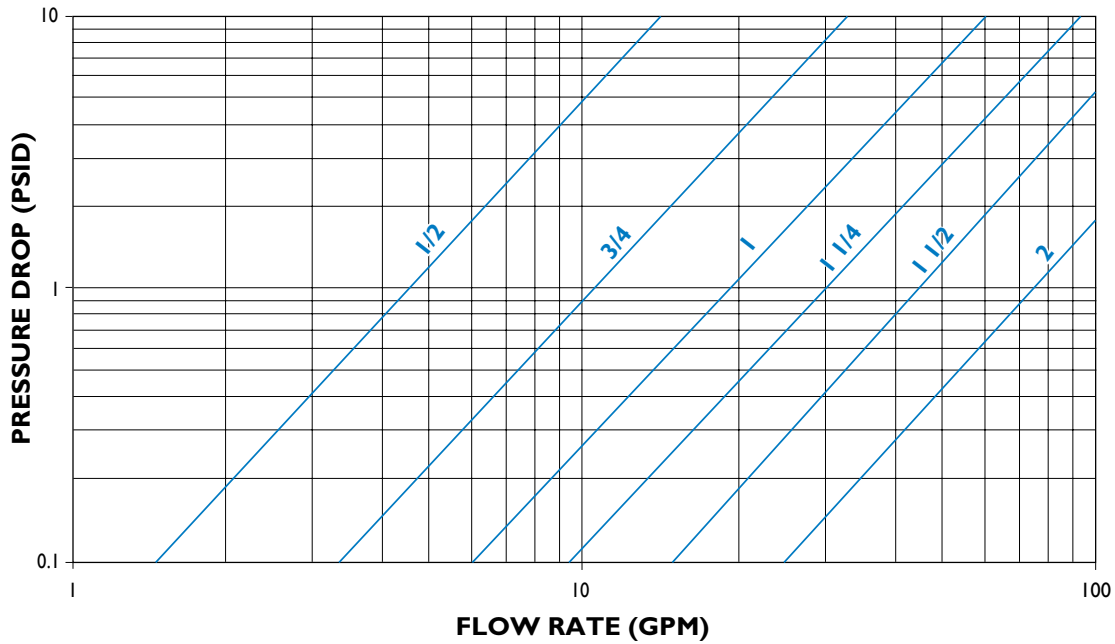

FIGURE 1
*Multiply values obtained from figure 1 thru 2 by the appropriate values shown below
- Using figure 1 the pressure drop is determined to be 0.9 psig with IFC's standard screen.
- 1) Using figures 1 or 2 determine the pressure drop (P1) through the strainer with water flow and standard screens.
- 4) Using chart #2 multiply P3 by the appropriate Component Factor (CF) to get P4.
- 6) Multiply P4 by the appropriate Body Loss Factor (BF) in chart #3 to get P6.
* Multiply values obtained from figures 1 thru 2 and charts #1, #2 and #3 (if used) by the appropriate values shown below